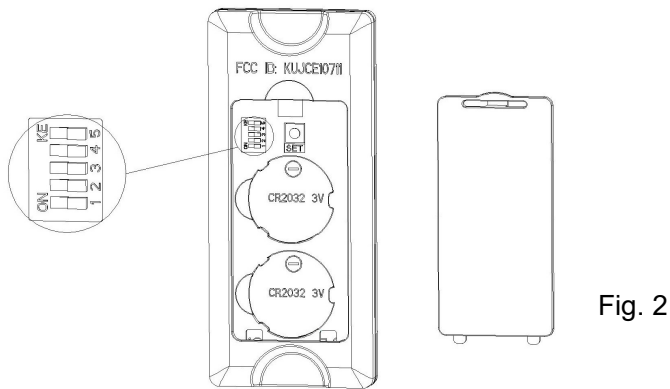

Fig. 2
4. Open the remote battery cover and install DC3V, CR2032, 2pcs Lithium batteries. (Fig. 2)